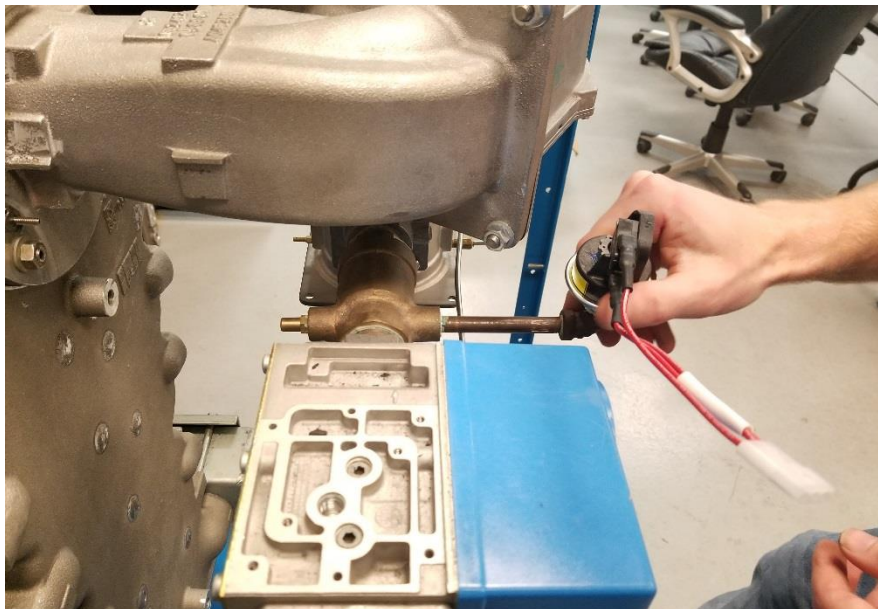

Figure 10
15. In order to install high gas pressure switch, remove stem and install high gas pressure switch onto stem. Then reinstall stem shown in figure 10. Be sure to apply gas thread sealant to new switches